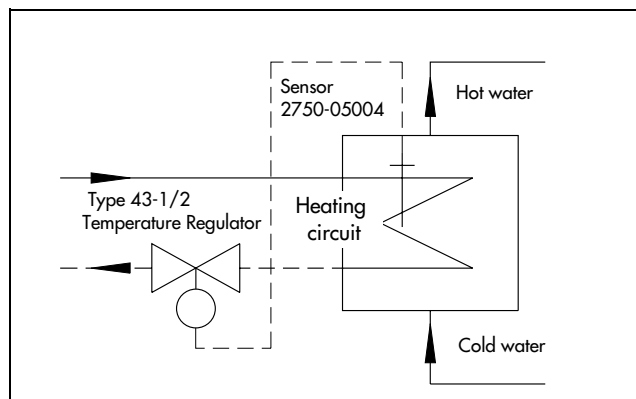

Fig. 5 · Installation position of the vapor pressure thermostat (principle)
- To utilize the fast response characteristics of the vapor pressure sensor, the sensor must always be installed in the best position. In instantaneous water heaters, it should be installed directly in front of the flow outlet from the heat exchanger, yet in front of the hot water inlet (see Fig. 5).